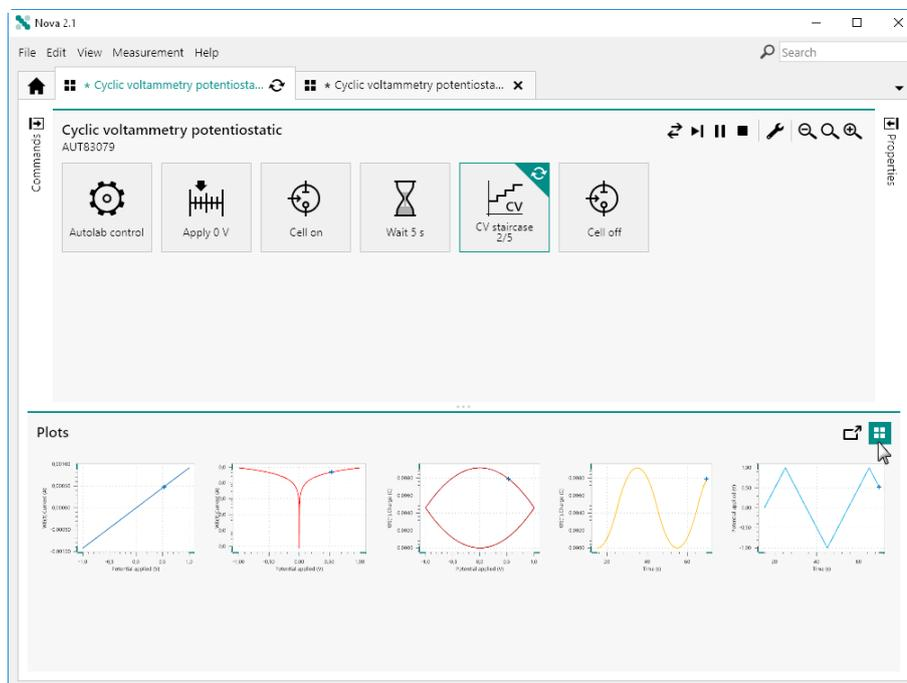

Figure 857 Plots displayed in tiled arrangement
- Tiled arrangement:** all the plots defined in the procedure are shown in the **Plots** frame and are shrunk to size required to show each plot in the frame. No scrollbar is added to the Plots frame in this case (see figure 857, page 707).